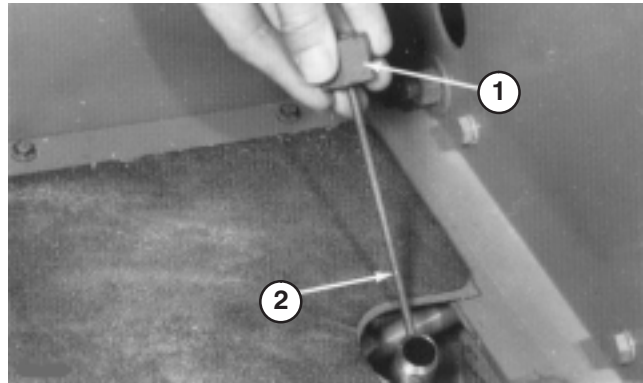

Figure 15
2. Unscrew dipstick cap (Fig. 15) from the filler neck and wipe it with a clean rag. Screw dipstick cap fingertight onto filler neck. Unscrew the dipstick and check level of oil. If level is not within 1/2 inch (13 mm) from the groove in the dipstick, add enough oil to raise level to groove mark. DO NOT OVERFILL by more than 1/2 inch (13 mm) above groove.